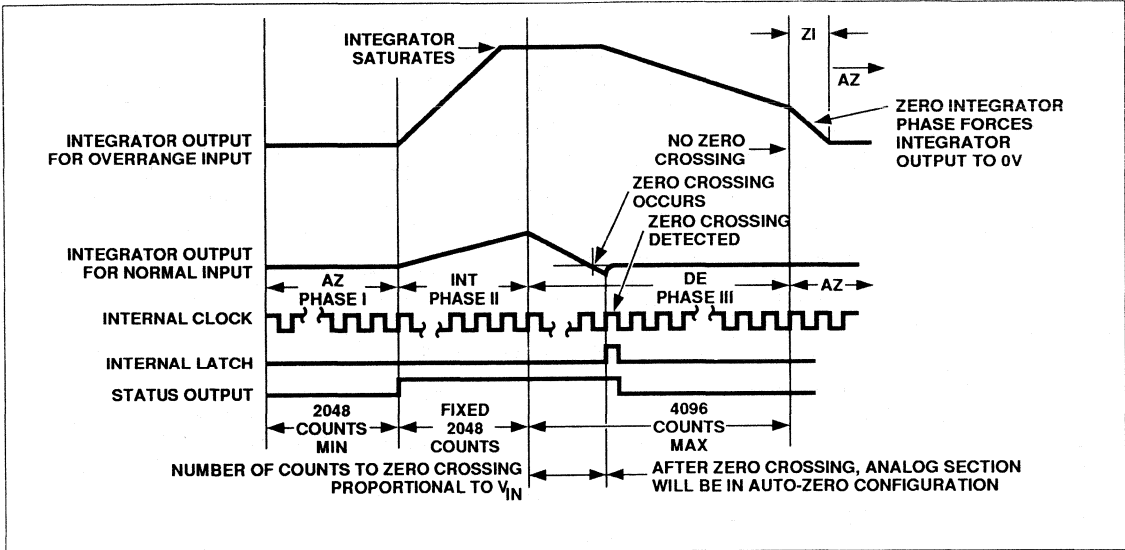

Figure 3 Conversion Timing (RUN/HOLD Pin High)
The functional diagram shows a block diagram of the analog section of the TC7109A. The circuit will perform conversions at a rate determined by the clock frequency (8192 clock periods per cycle), when the RUN/HOLD input is left open or connected to V^+ . Each measurement cycle is divided into four phases, as shown in Figure 3. They are: (1) Auto-Zero (AZ), (2) Signal Integrate (INT), (3) Reference Deintegrate (DE), and (4) Zero Integrator (ZI).
During ZI, the reference capacitor is charged to the reference voltage. The signal inputs are disconnected from the buffer and integrator. The comparator output is connected to the buffer input, causing the integrator output to be driven rapidly to 0V (Figure 3). The ZI phase only occurs following an overrange and lasts for a maximum of 1024 clock periods.
During a conversion cycle, the STATUS output goes high at the beginning of signal integrate and goes low one-half clock period after new data from the conversion has been stored in the output latches (see Figure 3). The signal may be used as a "data valid" flag to drive interrupts, or for monitoring the status of the converter. (Data will not change while status is low.)
With the RUN/HOLD input high, or open, the circuit operates normally as a dual-slope ADC, as shown in Figure 3. Conversion cycles operate continuously with the output latches updated after zero crossing in the deintegrate mode. An internal pull-up resistor is provided to ensure a high level with an open input.